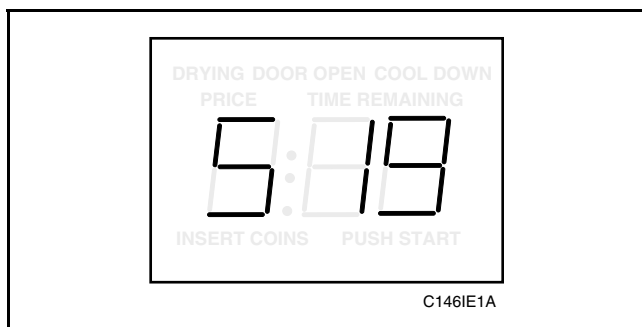

Figure 85
2. While pressing and holding the HIGH TEMP pad with one hand, press the MED TEMP pad with the other hand. Programmable option number 1, (Audio Signal “SIg”), will appear in the VFD, *Figure 85*.